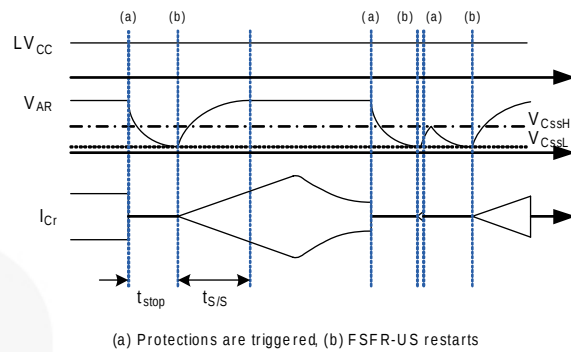

**Figure 20. Internal Block of AR Pin**
**4. Self Auto-restart:** The FAN7621S can restart automatically even if a built-in protection is triggered with external supply voltage. As shown in Figure 20 and Figure 21; once any protections are triggered, M1 switch turns on and V-I converter is disabled.  $C_{SS}$  starts to be discharged until the  $V_{C_{SS}}$  across  $C_{SS}$  drops to  $V_{C_{SSL}}$ . Then all protections are reset, M1 turns off, and V-I converter resumes. The FAN7621S starts switching again with soft start. If the protections occur while  $V_{C_{SS}}$  is under  $V_{C_{SSL}}$  and  $V_{C_{SSH}}$  level, the switching is terminated immediately,  $V_{C_{SS}}$  continues to increase until reaching  $V_{C_{SSH}}$  then  $C_{SS}$  is discharged by M1.